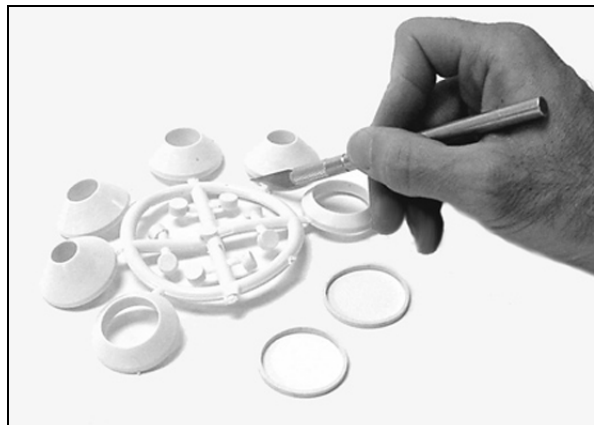

Figure 3-5 Styrene-butadiene rubber septum and collar set
2. Cut a septum from the septum and collar set (Figure 3-5). Use a sharp knife and cleanly trim any excess material from the cut edge.
2. Cut the collar from the septum and collar set (Figure 3-5). Use a sharp knife and trim excess material from the cut edge.